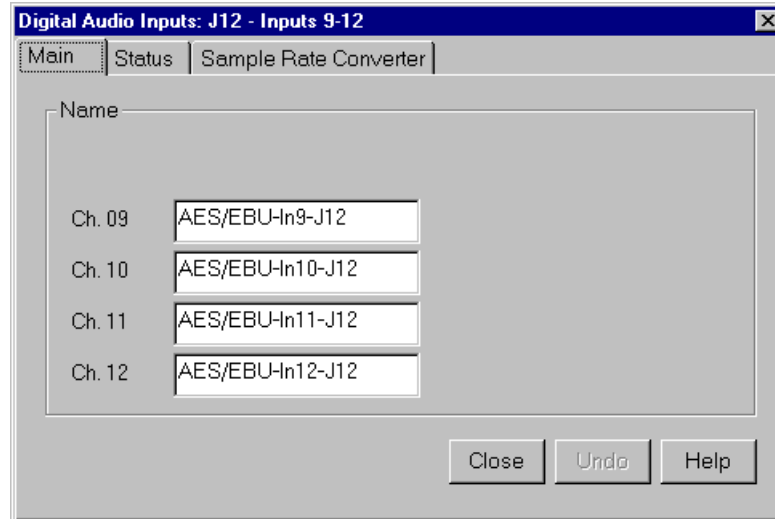

Figure 30. Digital Audio Input dialog box, Main tab
1. Expand Audio Input, and then click one of the Digital Channels to bring up the Digital Audio Input dialog box (Figure 30). The channel numbers on the left refer to the physical input connectors on the audio input box. **Ch. 01** and **Ch. 02** refer to the channel pair on the first connector, and **Ch. 03** and **Ch. 04** refer to the pair on the second connector, and so forth.